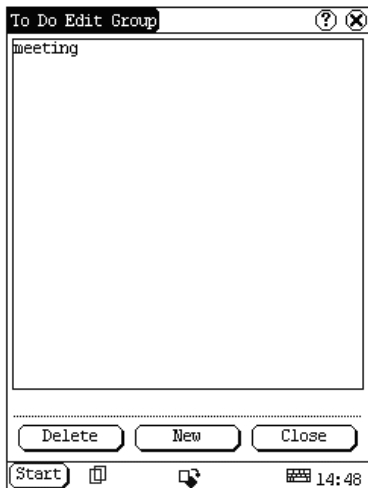

Fig 4-22
- 2) In the type list, select 'Edit Group' to open the Edit Group interface. See Fig 4-22.
*The interface ④ : It represents the To Do Detail Interface (Refer to step 1-3 in the section "Add New To Do" and "Edit To Do"), and the To Do Display interface (Refer to step 1 in the section "The Set of Display ").*